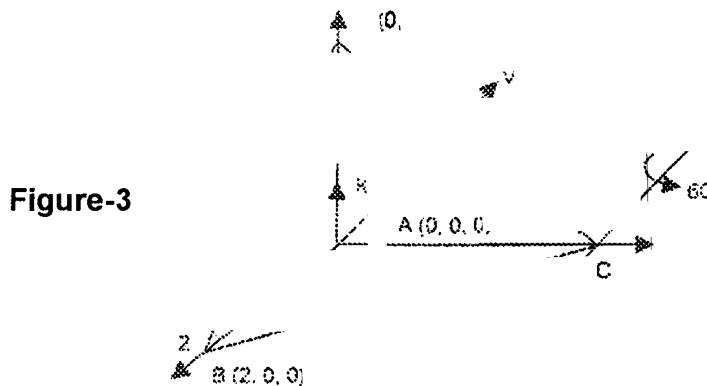

Figure-3
- (b) The pyramid defined by coordinates $A(0,0,0), B(2,0,0), C(0,2,0)$ & $D(0,0,2)$ is rotated by 60° about a line that has the direction $V=J+K$ and passing through point $C(0,2,0)$. Find the coordinate of rotated figure-3.